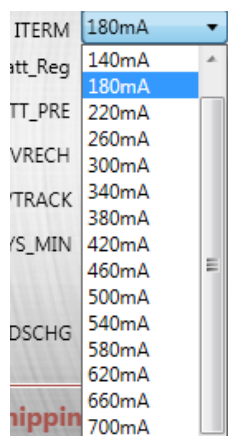

Figure 10: Terminal Charge Current Setting
8. Set the terminal charge current (see Figure 10). Its range is 100mA to 700mA, and the default value is 180mA.